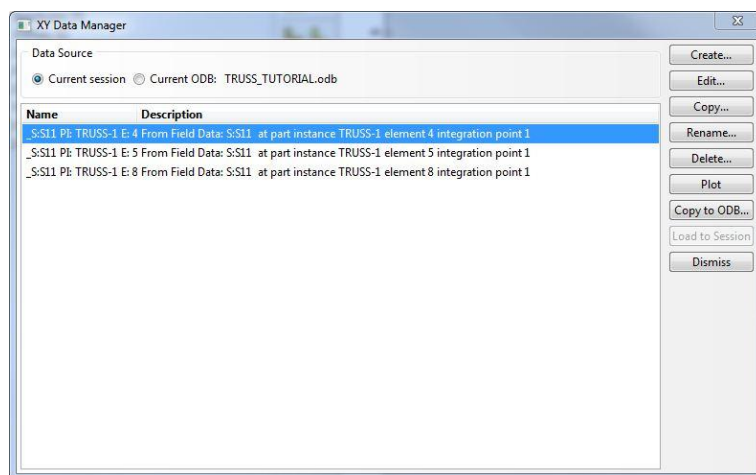

Figure 40. XY Data Manager Dialog Box
- The XY Data Manager dialog box will appear (Figure 40).